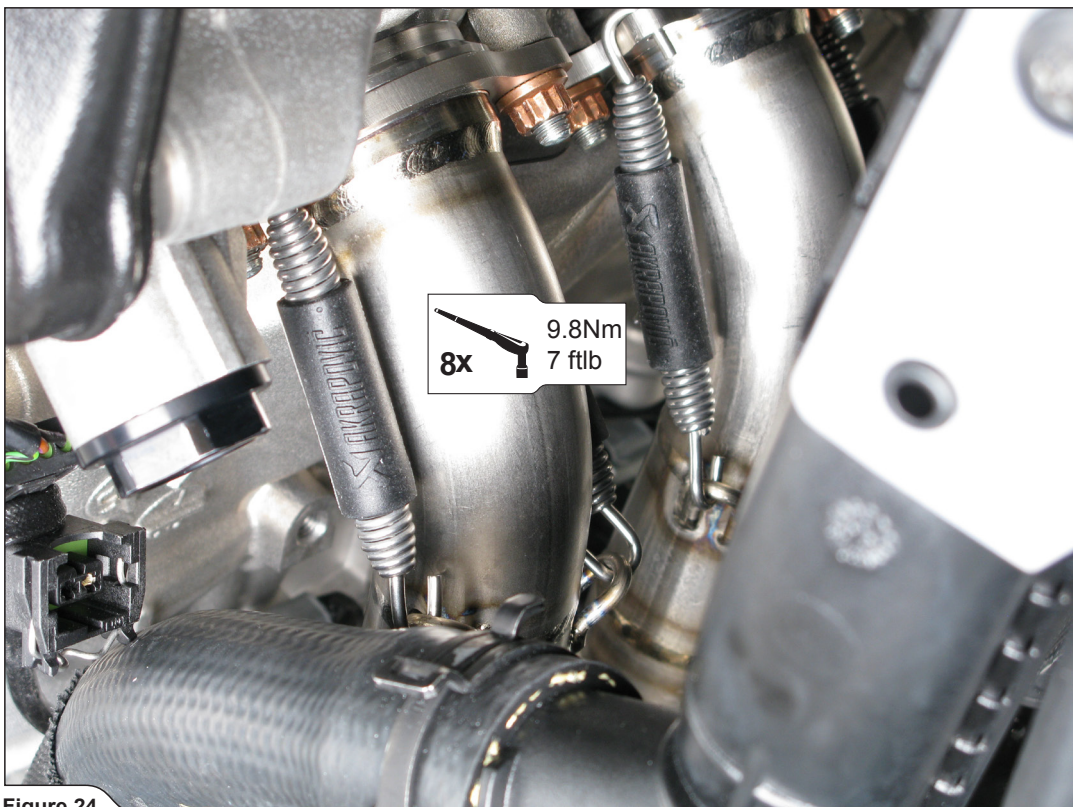

Figure 24
2. Insert the headers into the sleeves, attach the springs and tighten the flanges to specified torque (**Figure 24**).